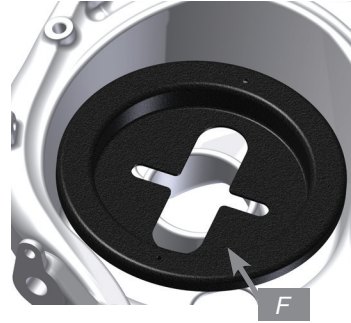

fig. 14
5. Apply the second roll plate (F) within the lower control arm spring pocket (fig. 14).